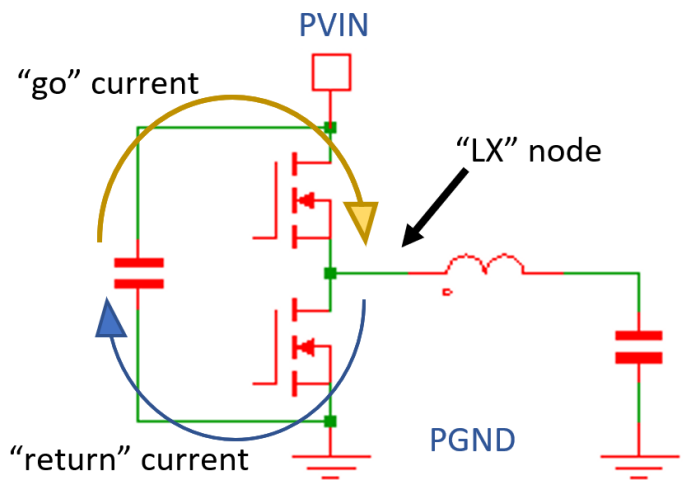
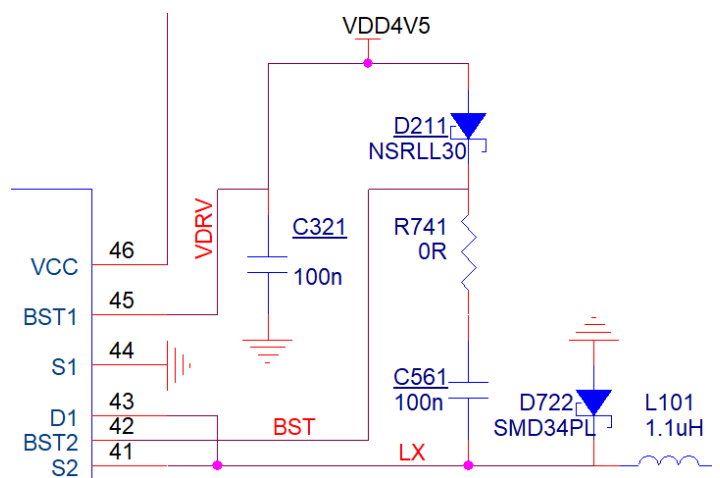

Figure 1: Synchronous Buck Converter: main switching loop and high dv/dt node
Figure 2: Schematic showing bootstrap components C561, optional R741, and D211; and optional freewheeling diode D722.
The LX node is pointed to by the arrow in Figure 1, and labeled “LX” in Figure 2. It connects the half-bridge output to the inductor. Because it carries high current, the trace needs to be wide to minimize resistive losses that reduce system efficiency. A quick rule of thumb to calculate the full load efficiency loss in percent due to resistive losses, %_{LOSS}:
The high-side BST (gate drive bootstrap) pin (pin 42 / BST2 in Figure 2), and components attached to it (C561, R741, and the cathode of D211), have the same dv/dt as the LX node. Ensure that these components, and their traces, likewise do not couple dv/dt noise into susceptible traces.
Currents flow in loops. The main switching loop in a synchronous buck converter *with high di/dt* is shown in Figure 1. This is formed by the half-bridge main MOSFETs, and the connections to the closest PVIN bypass capacitor. The yellow curved arrow represents the “go” current, and the blue curved arrow represents the “return” current. Together they form a loop, whose area needs to be minimized.
PCB manufacturers can fill small vias with thermally and electrically conductive material. This improves electrical and heat conduction – an advantage for the AmP device’s thermal pad. Consult your PCB manufacturer for their conductivity constants to enable calculating their thermal and electrical resistance. Also note that for thermally demanding applications, the MOSFET Source and Drain pins (S1/S2 and D1/D2 in Figure 2) also provide a heat path out of the device, in addition to the thermal pad. The vias and copper traces connected to these pins will help carry heat away.
There are a few more component connections which require attention. These components need to have a small loop area formed between them and the AmP device pins they connect to. That is, they need to be relatively close to the AmP device, and have short traces connecting them. The components which have a terminal connected to ground should have a via to the ground plane nearby. The components which have neither terminal grounded, ideally will have their respective go and return traces side by side, or one on top of the other on separate layers. These components are the following, visible in Figure 2:
- The optional low-side FET anti-parallel Schottky (D722 in Figure 2)